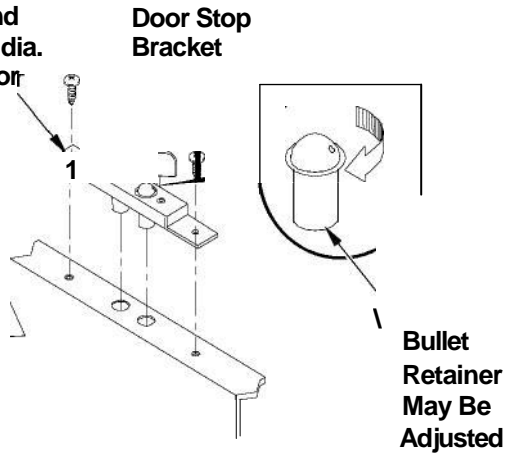

Figure 4 - Replacing Door Stops on Various Models
1. Remove old door stop by removing screws. Some models may have old door stops fastened with rivets. In this case, drilling will be required. Using new door stop bracket as a template, measure and align to the center of bottom front face and proceed to drill a 0.42" diameter hole (see Figure 4). Install bracket with provided screws.